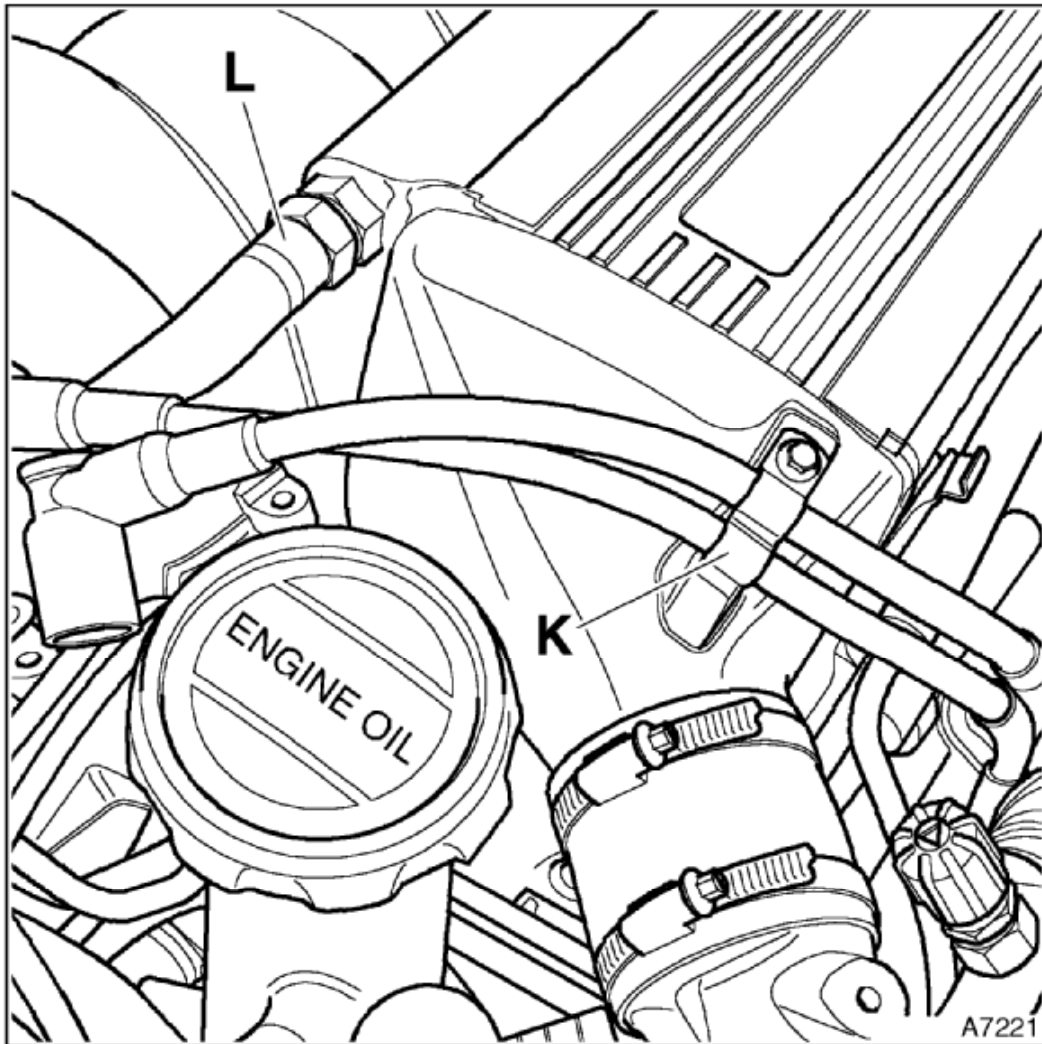

Figure. 7
17. Remove HT lead retaining clip K, on chargecooler. See figure 7.
18. Disconnect the coolant inlet pipe L, from the front of the 'B' bank chargecooler. See figure 7